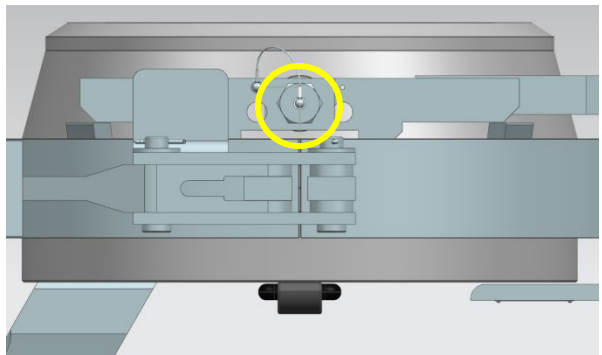

Figure 1: Pressure Warning Lock
- B. Remove the pressure warning lock from closure and monitor for signs of pressure release, see Figure 1.